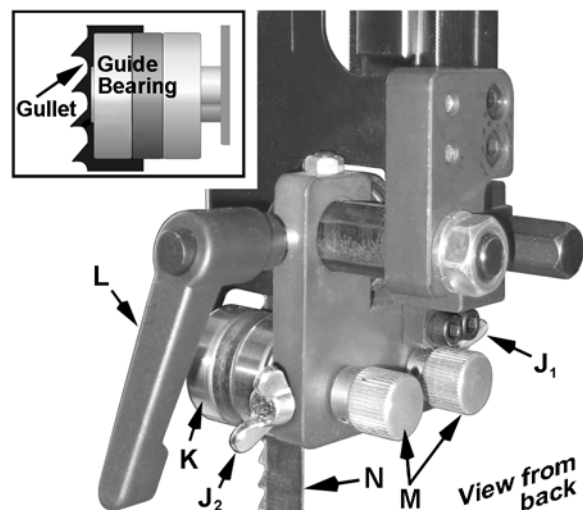

Figure 22
To adjust the guide bearings (refer to Figure 22):
2. Loosen the *locking handle* (L) and slide the assembly until the front of the *guide bearings* rest just behind the *gullet* of the blade teeth (see inset).
3. Loosen two *wing nuts* (J1, J2). Rotate the *adjustment handles* (M) until the *guide bearings* (K) rest lightly against the *blade* (N). *Do not force* the guide bearings against the side of the blade.
4. Tighten *wing nuts* (J1, J2 Fig. 22).